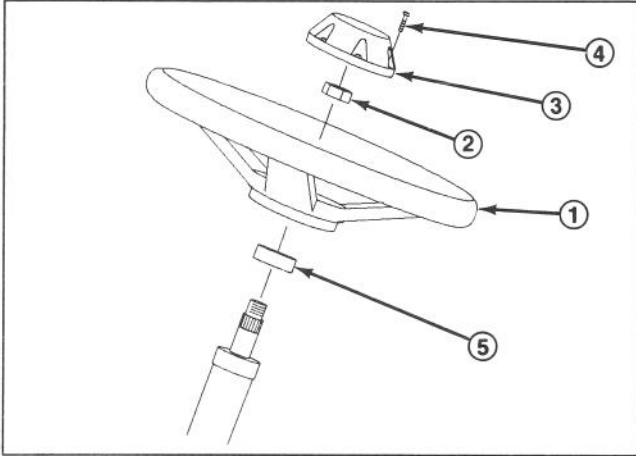

Figure 4
2. Secure steering wheel to shaft with jam nut (Fig. 4) and tighten it to 10-15 ft-lb.